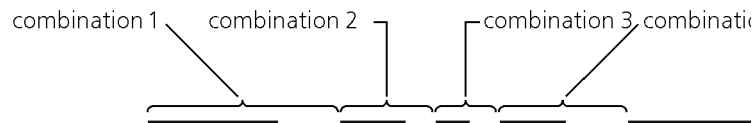

Fig. 7.5. Dash-and-gap combinations in a Dashed special line style.
The style created consists of four dash-and-gap combinations (Fig. 7.5).
- Add the third and the fourth combinations in accordance with Fig. 7.5.